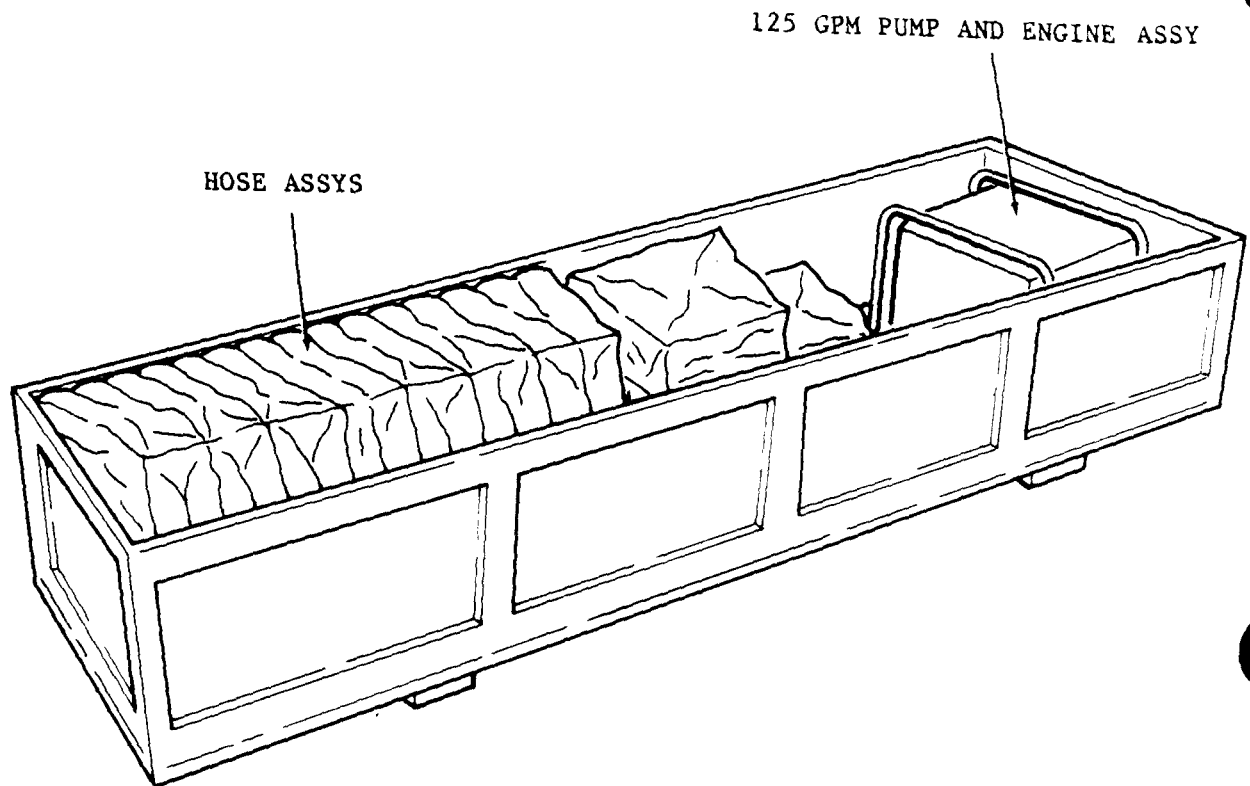

Figure 4-1. FAWPSS Shipping Crate
- (1) Select a level, debris free area for setting up the FAWPSS. In an operational setting the FAWPSS requires an area approximately 30 feet by 120 feet.
- (2) Remove top of wooden shipping crate (figure 4-1). An equipment shipping list is supplied with each system. Remove equipment shipping bags from shipping container one at a time.
- (3) Inspect the equipment for damage incurred during shipment. If the equipment has been damaged, report the damage on DD Form 6, Packaging improvement Report.
- (4) Check the equipment against the packing slip to see if the shipment is complete. Report all discrepancies in accordance with the instructions of DA PAM 738-750.
- (5) Check to see whether the equipment has been modified.